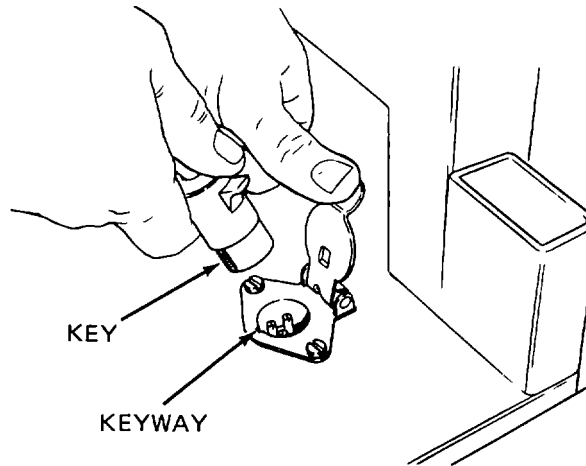

Figure 2-12. Platform Light Connection.
- (1) Plug in the lights to turn them on. See Figure 2-12.